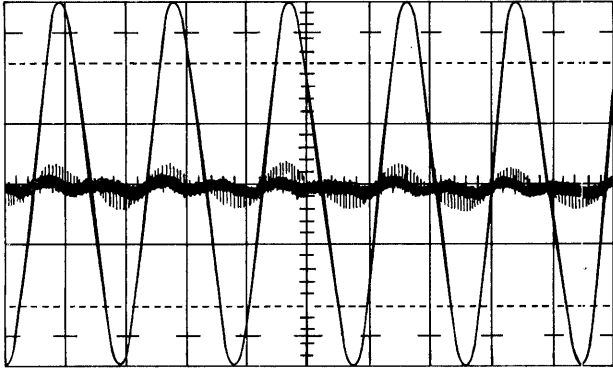

Figure 2-13. Servo Adjustment Waveform
- a. While performing a one-cylinder alternate seek, with approximately 40 milliseconds between seeks, check servo offset for single waveshape, and demodulator null for minimum amplitude (see Figure 2-13).